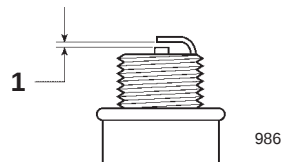

Figure 19
4. Set the gap on the new plug to 0.030 in. (0.76 mm) (Fig. 19).